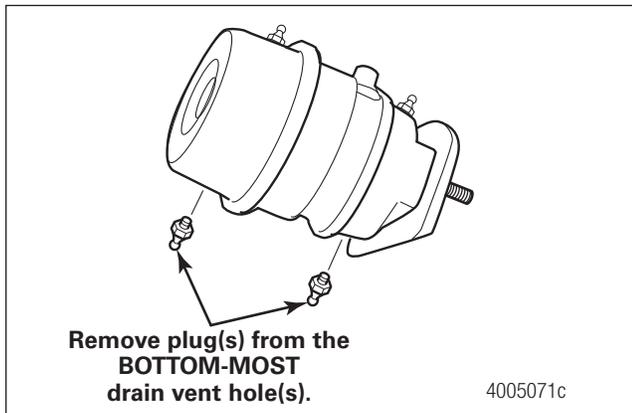
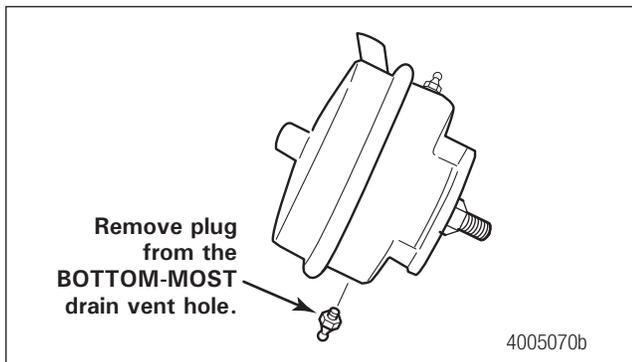

Fig. 10.5 Service/Spring Chamber Breather Plugs
Fig. 10.6 Service Chamber Breather Plug
STEP 9 - If breather plugs are supplied, locate the bottommost breather plug and remove it from the chamber. Figure 10.5 and Figure 10.6.